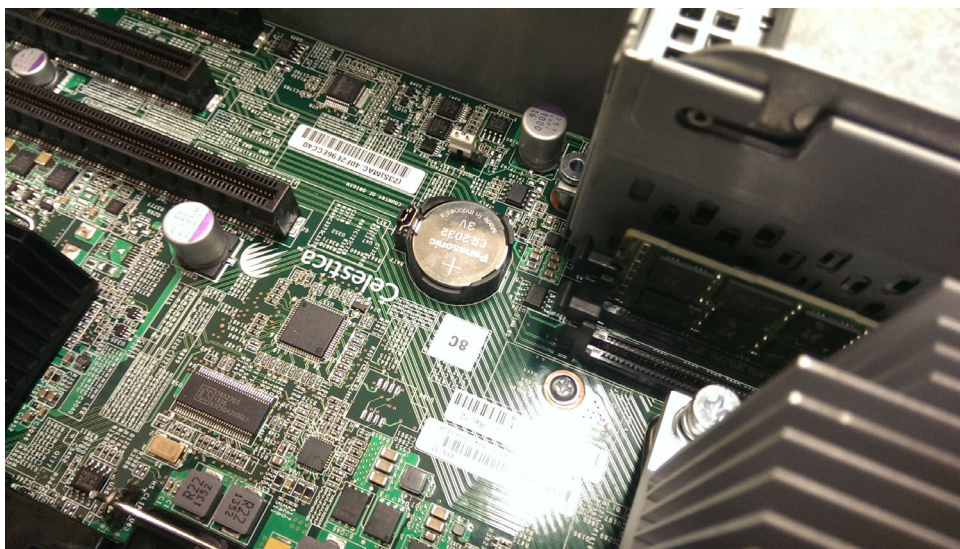

Figure 109. Replacing a CMOS Gen2 battery
3. Locate the CMOS battery inside the node canister.. See Figure 109 on page 354